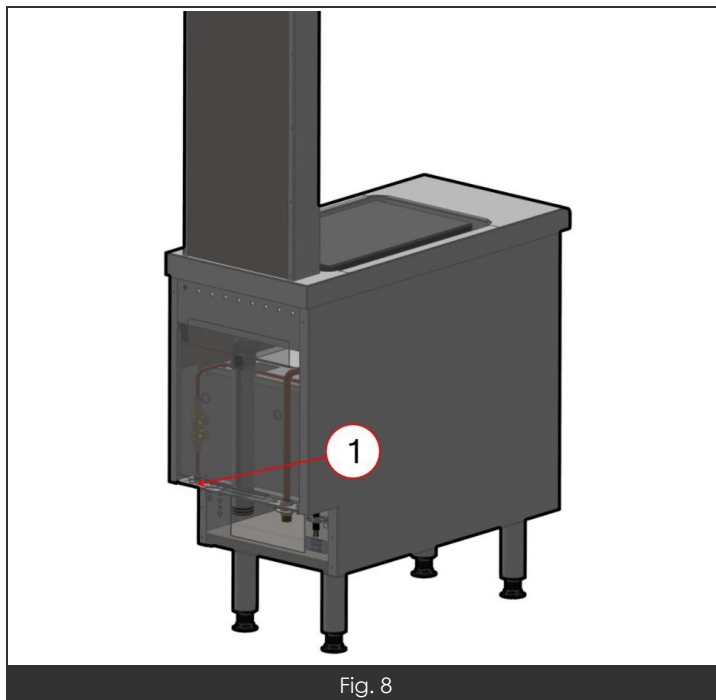

Fig. 8
- Your water hose should be connected to the connector located underneath the plancha or inside the plancha's closed cabinet if fitted (Fig. 8).